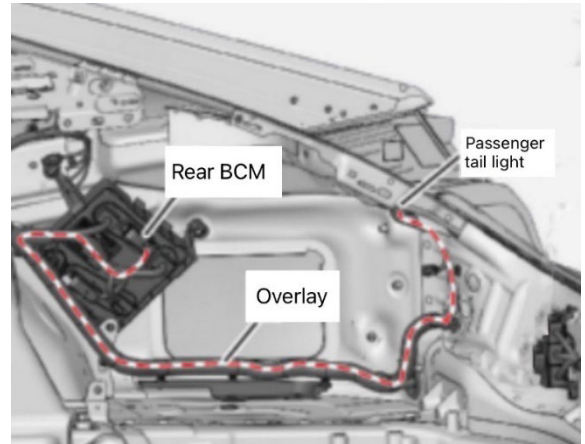

Figure 9. Overlay Routing on Passenger Side
2.1.2 Route overlay wire from passenger taillight to Rear BCM (Figure 9)